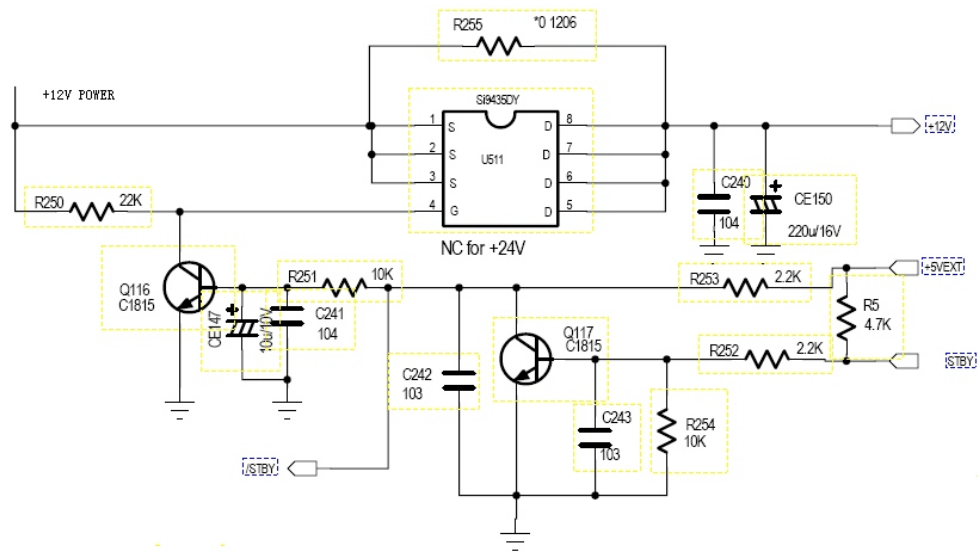

Figure 3.2.5.4 +12V Power control circuit diagram
(1)+12V Power control circuit diagram is shown in the figure3.2.5.4: